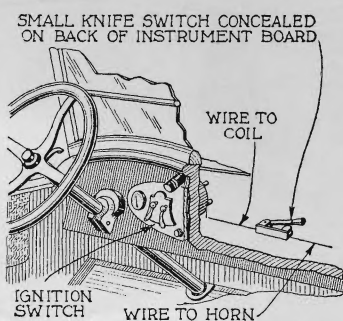

Fig. 4. Turning on ignition switch starts the horn sounding continuously, foiling the automobile thief
O. E. Abernethy, of Hickory, N. C., wins the \$10 prize this month for his suggestion of a way to discourage the auto thief (Fig. 4). Each month POPULAR SCIENCE MONTHLY awards \$10, in addition to regular space rates, to the reader sending in the best idea for motorists. Other published contributions will be paid for at our usual rates.
NOTHING is more disconcerting to an auto thief than a noise which will call attention to his activities, and so the simple wiring scheme shown in Figure 4 should prove quite effective while the car is left in a well populated district. All you need is a single pole, single throw knife switch and a few feet of wire. The knife switch should be concealed at any convenient point behind the instrument board. Connect one terminal of the switch to the binding post on the ignition switch, or to the wire that runs from the ignition switch to the spark coil, at any convenient point. Connect the remaining terminal of the switch to the binding post on the horn that is wired to the horn button, or to the wire itself if that is easier. When the switch is closed, turning on the ignition will cause the horn to sound.